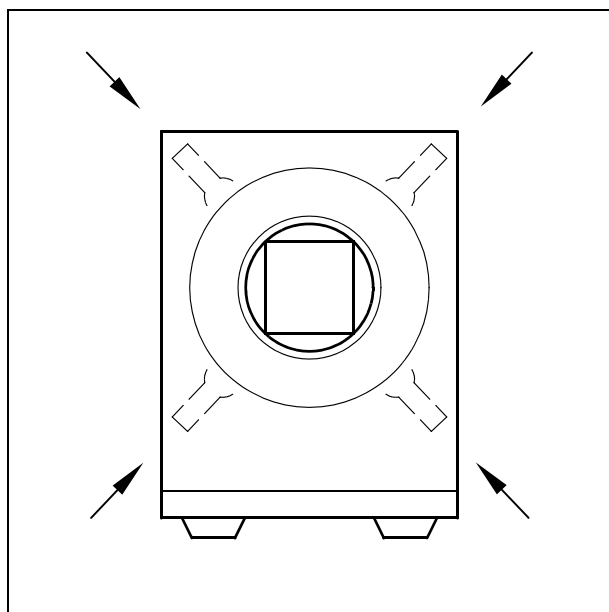
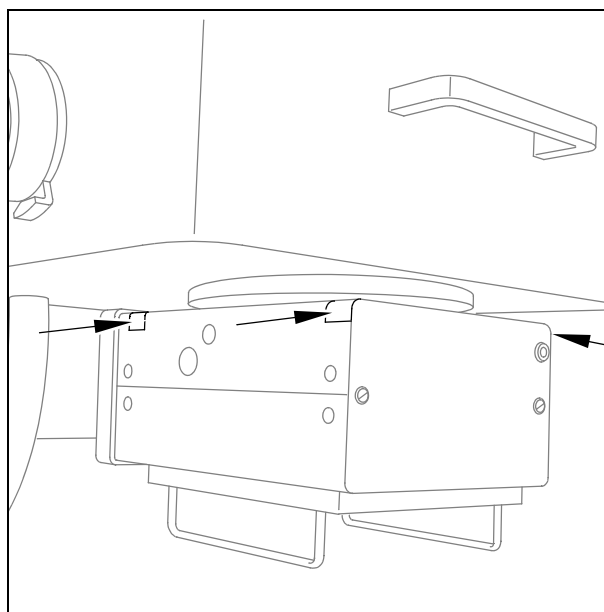

Fig. 7
Fig. 8
- If the deviation is greater, loosen the 4 Allen screws (arrow/Fig. 7/Fig. 8) and shift the collimator correspondingly.
Then tighten the screws on the collimator (arrow/Fig. 7/Fig. 8) again.